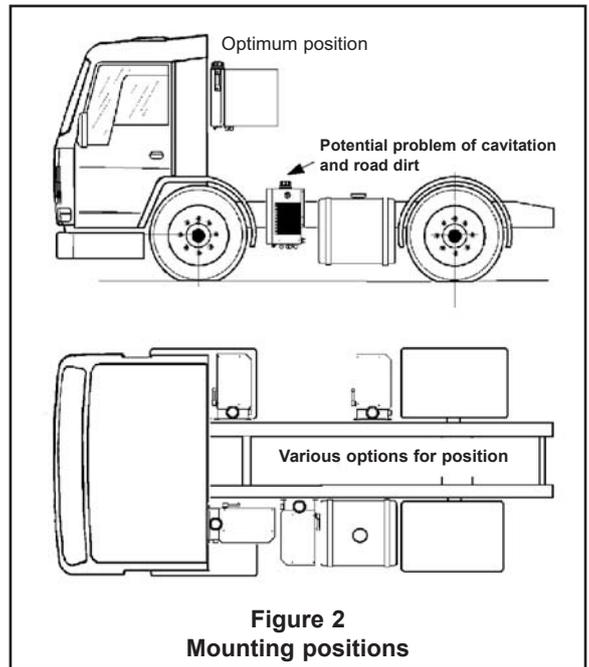

Figure 2
3. Mount the HYDRIVE in a position away from the wheels and road spray to protect the radiator from impact damage from road debris, stones, loose hoses, etc. (see Figure 2).